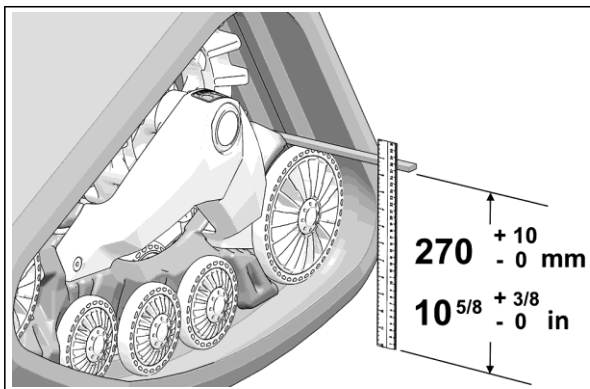

Figure 2
- Position a flat bar on top of rear wheels of front track system and measure from the ground up to flat bar as shown on Figure 2.